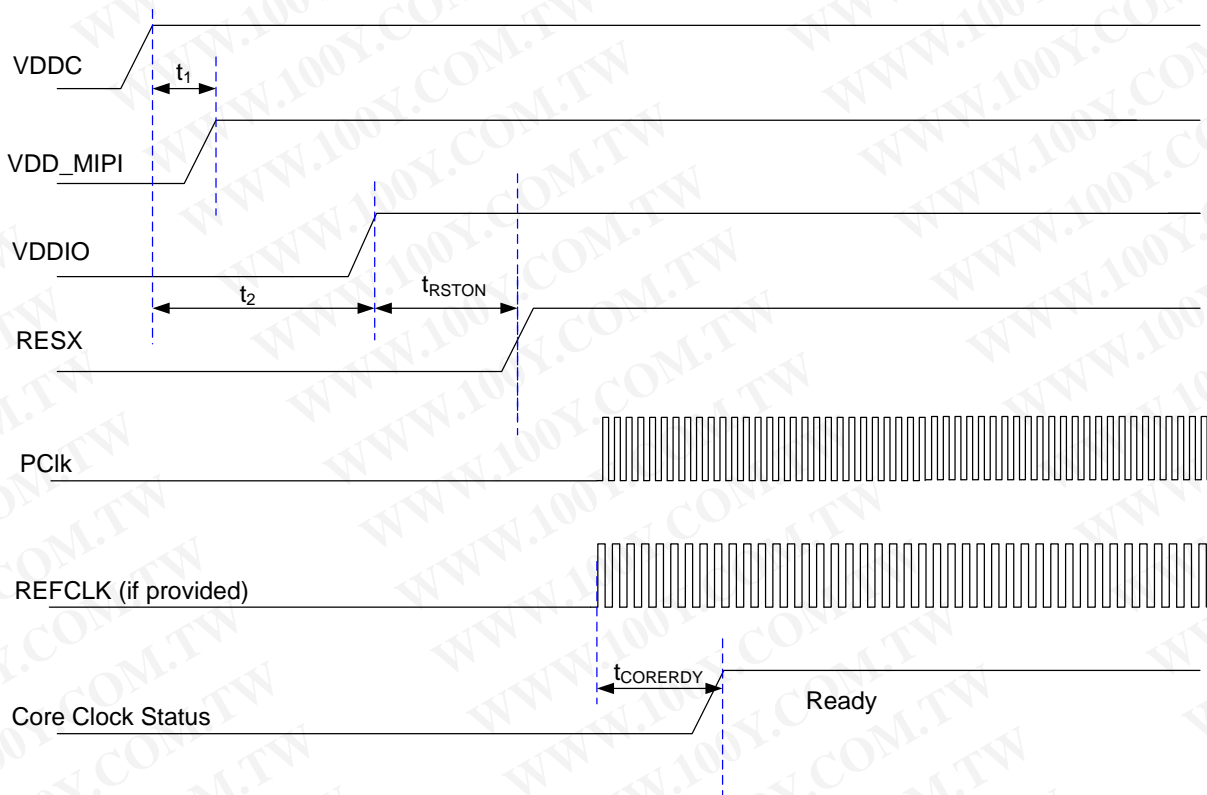

Figure 4-1 Power On Sequence
2. For voltage source, it is desired to turn on core power (1.2) source first, then Analog PHY and IO power as shown in Figure 4-1 Power On Sequence.
4. The timing parameters for Figure 4-1 are tabulated in Table 4-3.